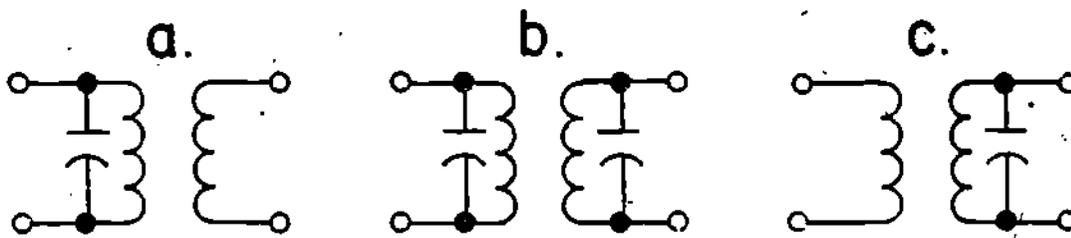

Figure 2
4. When we amplify RF signals, as in a radio receiver, we also are concerned with selectivity. In other words, we want to amplify only the frequency of the radio station that we select. Since a transformer is actually two coupled inductors, we can put a capacitor across either or both windings, as shown in Figure 2, to make the coupling circuit selective.
The capacitors parallel to the windings in Figure 2 make the transformer a parallel resonant circuit.
The capacitors in transformers a, b, and c, of Figure 2 make these circuits \_\_\_\_\_.